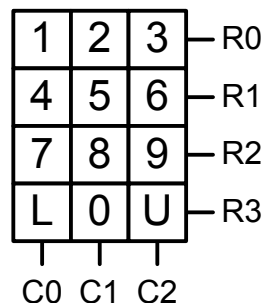

Figure 1. Control Panel
1. The control for the digital lock is a 12-button panel with 7 outputs R0..R3 and C0..C2. Figure 1 **Error! Reference source not found.** shows the layout of the control panel. When a button is pressed the column line C0, C1, or C2 will output a 1, and the row line R0, R1, R2, or R3 will output a 1. In order to simplify subsequent subcircuits you will be converting the outputs of the control panel into an output button code and a valid bit. If only a single button is pressed the valid bit V will be 1, and the button code bits B3..B0 will be the value of the button 0 = 0000, 1 = 0001, ..., L=1010, and U=1011. If multiple buttons are pressed or no button is pressed V will be 0.